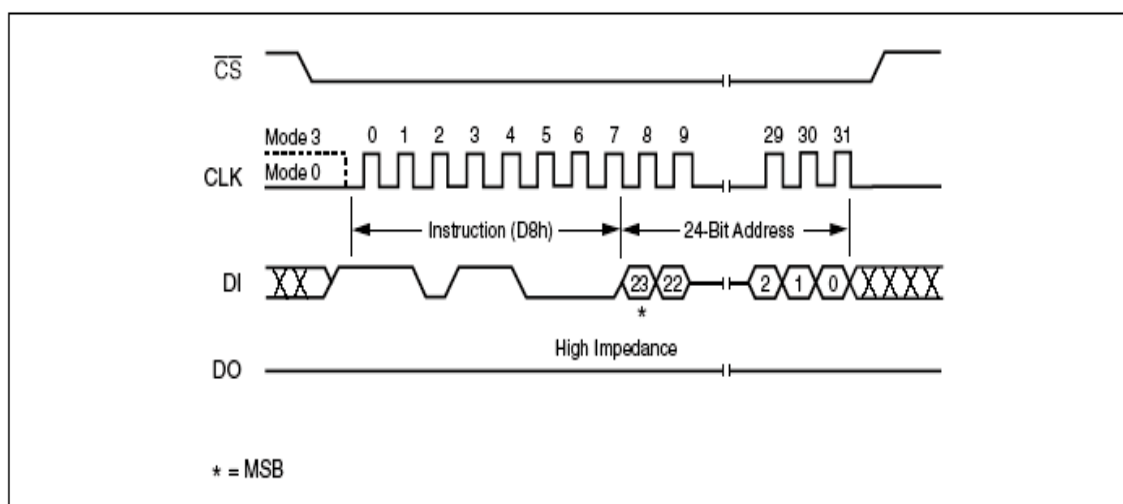

Figure 13 Block Erase Instruction Sequence Diagram
The instruction sequence is shown in Figure 13.. Chip Select (CS#) must be driven High after the eighth bit of the last address byte has been latched in, otherwise the Block Erase (BE) instruction is not executed. As soon as Chip Select (CS#) is driven High, the self-timed Block Erase cycle (whose duration is  $t_{SE}$ ) is initiated. While the Block Erase cycle is in progress, the Status Register may be read to check the value of the Write In Progress (WIP) bit. The Write In Progress (WIP) bit is 1 during the self-timed Block Erase cycle, and is 0 when it is completed. At some unspecified time before the cycle is completed, the Write Enable Latch (WEL) bit is reset.